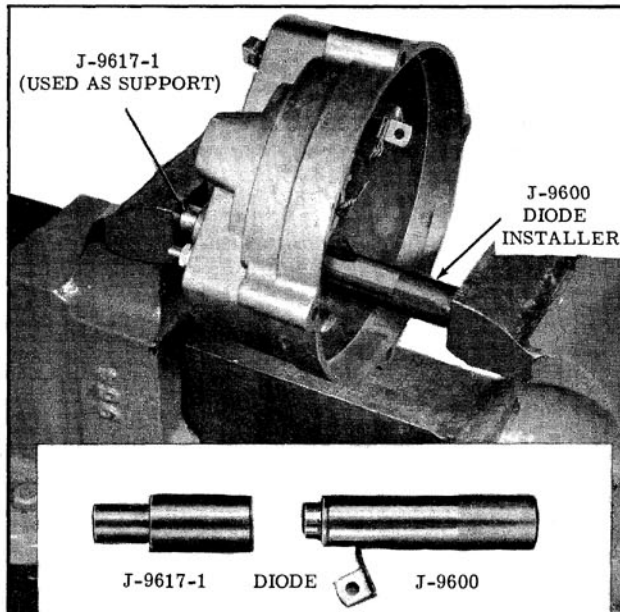

Fig. 13-40 Diode Installation
1. Insert a diode into Tool J-9600 as shown in Inset, Fig. 13-40.
2. Position Tools J-9617-1, J-9600 (with diode) and end-frame as shown in Fig. 13-40.